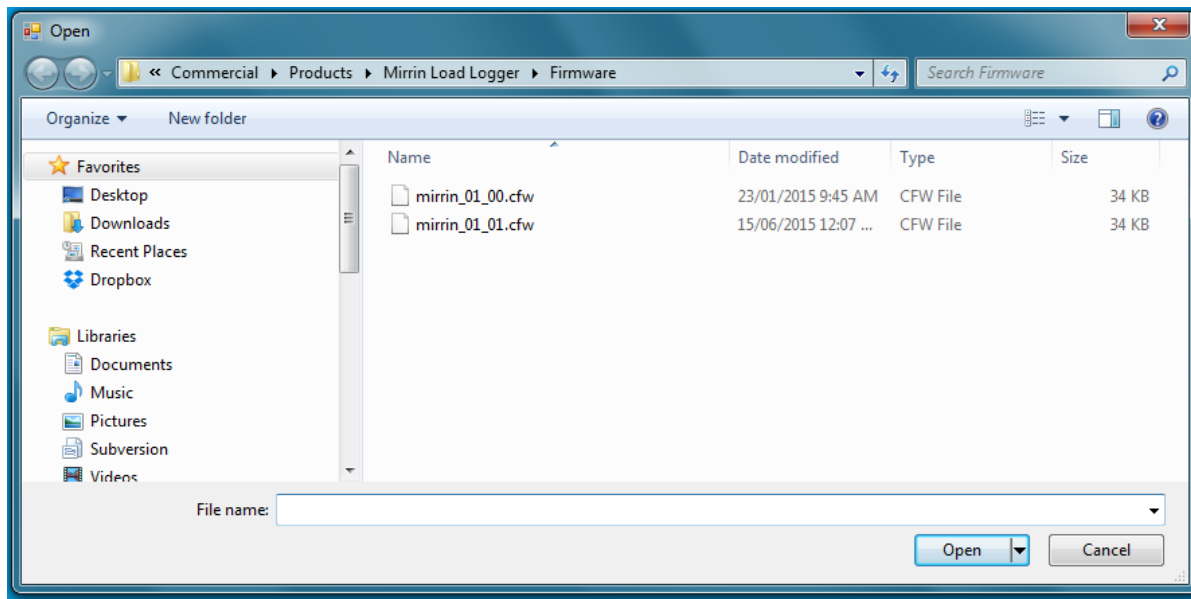

Figure 2.8.2
Step 2: Go to the folder containing the updated firmware file as shown in figure 2.8.2. Note the file has an extension of 'cfw'.